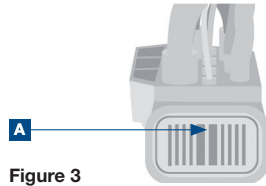

Figure 3
- 14 Unlock and disconnect cable set connector plug X26 (Figure 3):
- Remove lock (A).